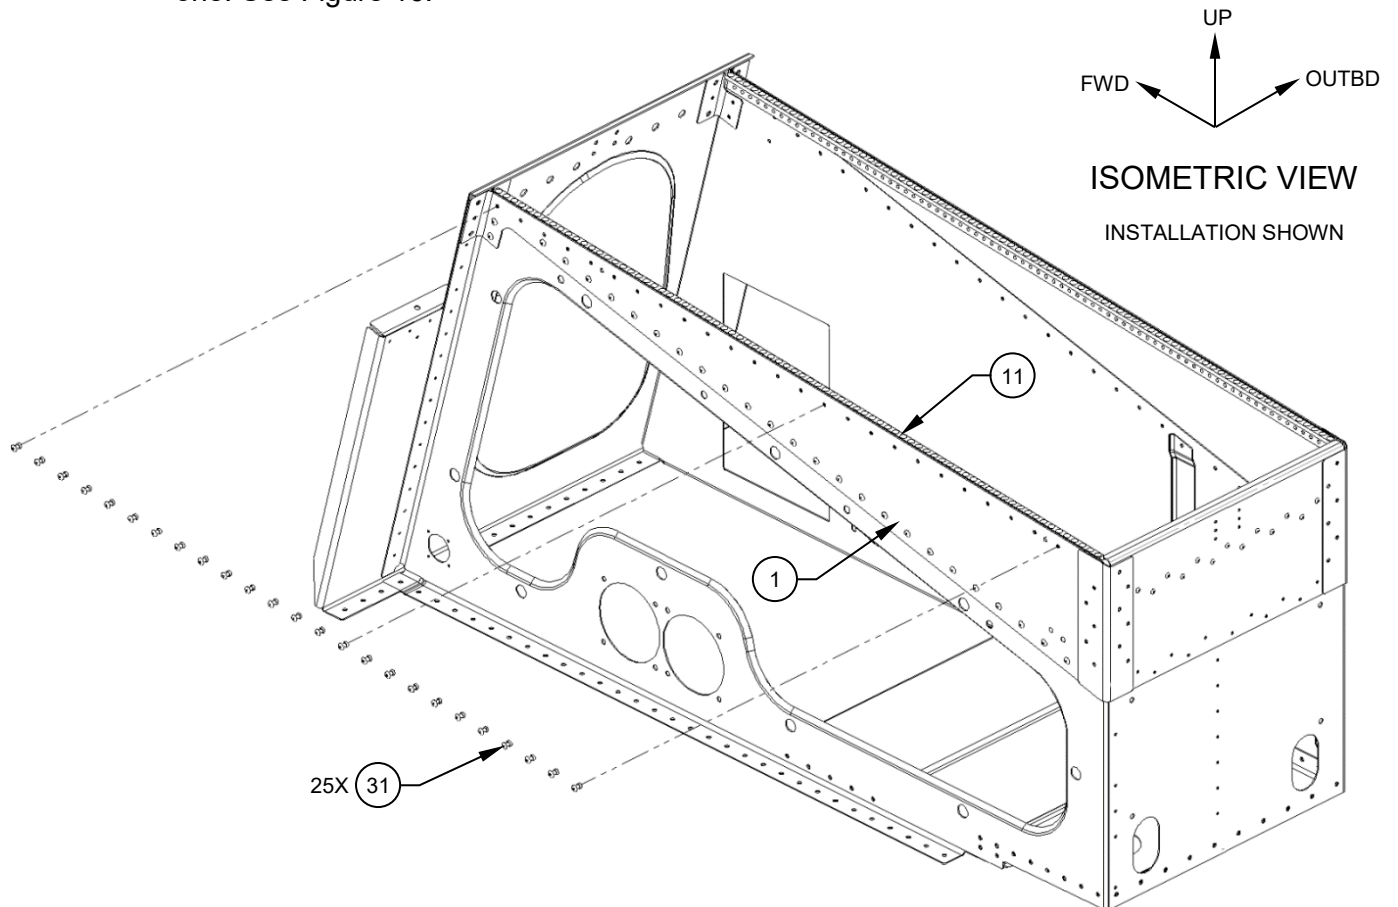

Figure 16
4.2. Back-drill from Dzus Rail, Detail, (Item 11), thru the LHS Angle, Assy, (Item 1), for 25x Rivet, Solid, Universal Head, (Item 31). Starting at the FWD most hole used to locate the Dzus Rail, Detail, (Item 11) in station. The pattern is as follows, rivet one, skip two, rivet one. See Figure 16.